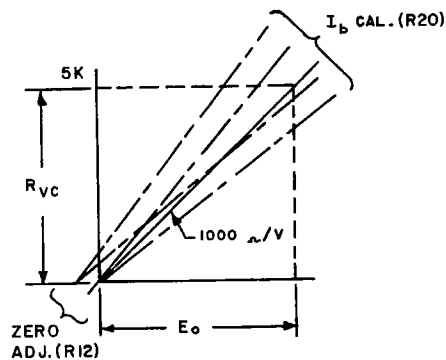

FIG. 3-17 PROGRAMMING RATIO GRAPH.
- e) Open S1 again and check the previously calibrated 5-volt reading. Repeat "zero" and "Ib CAL." adjustments by alternately opening and closing S1 and correcting the calibrations to achieve the desired accuracy. Refer to FIG. 3-17 for a graph illustrating the programming ratio calibrating process.